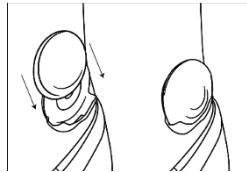

Figure 8 Load Therapy Disc
1. Slide the Therapy Disc into the open side of the clip until it clicks into place. Ensure that "Nalu" is facing away from your skin, as shown in Figure 8.